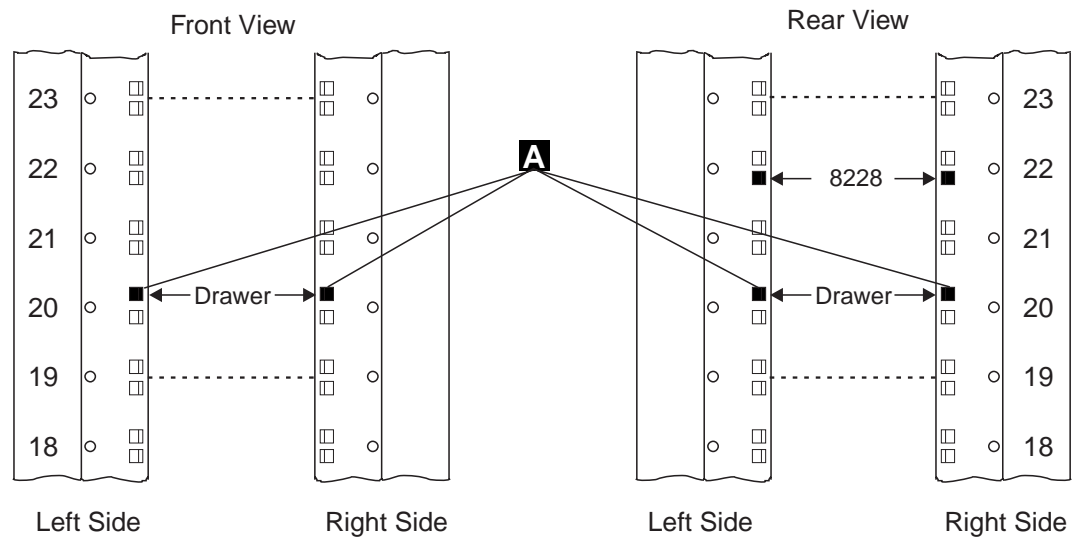

Figure 1-6. Installing Captive Nuts for the Service Drawer
7. ____ Refer to Figure 1-6, and if needed install four captive nuts **A** (PN 58G5766) on the front and on the rear side of the controller expansion.